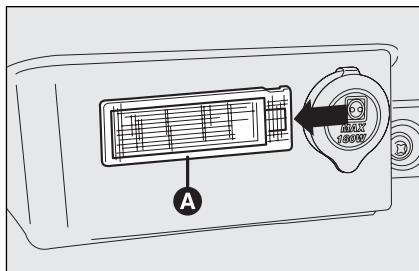

fig. 52
- remove the bulb **A**-fig. 52 levering in the points shown by the arrow.
- refit the light unit **A**-fig. 52 inserting it in its correct position firstly on one end and then on the other until it clicks into place.